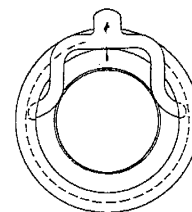

Fig. 3
2. Move the spring forward to free the cap jewel, which you then lift out, Fig. 3.